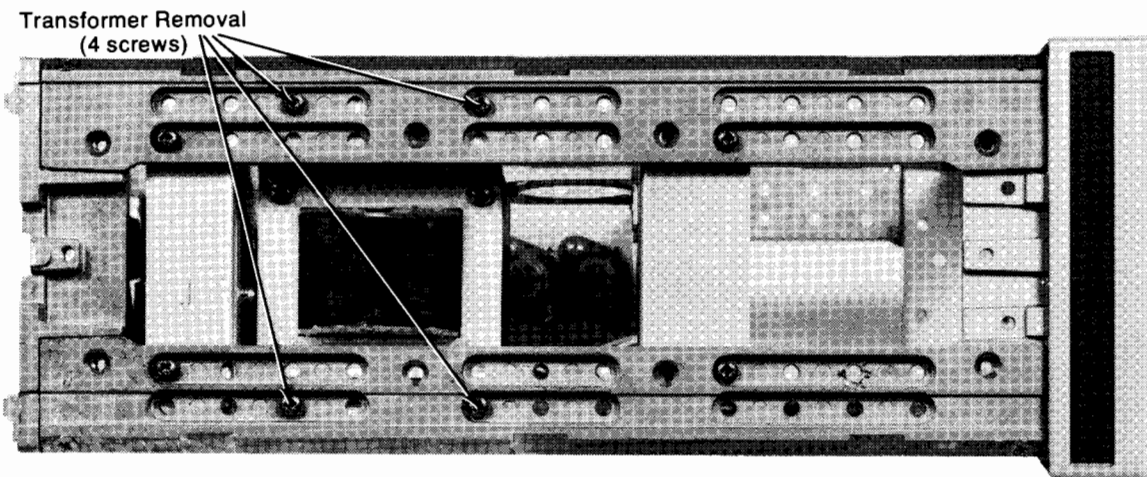

Figure 4-12: Transformer Removal
The transformer can be removed by removing the four (4) retaining screws as shown in Figure 4-12, and the one (1) screw which secures the ground lug.